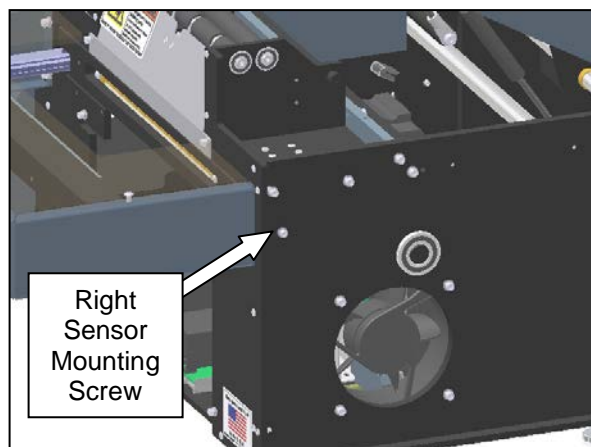

Figure 3-347. Right Sensor Mounting Screw
2. Remove the mounting screw identified in Figure 3-347. Once free, access the sensor through the rear of the machine. Follow the wire routing through the machine, and remove any wire ties as necessary.